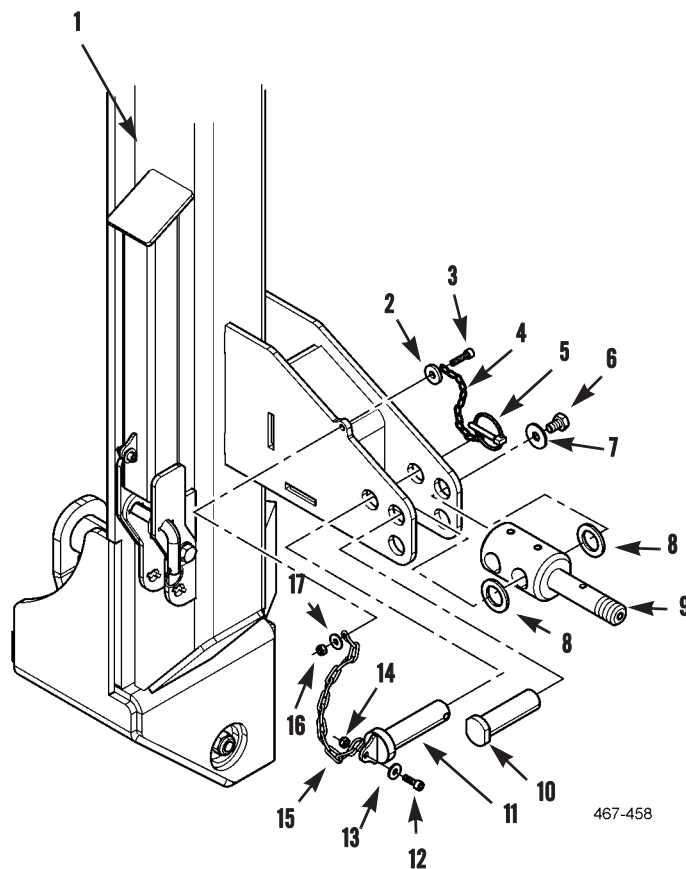

Figure 3. Roller Pins and Chains.
1. Install roller pin (Figure 3, Item 9) and pin (Figure 3, Item 11) in lift frame (Figure 3, Item 1).
2. Install snap ring pin (Figure 3, Item 5) in pin (Figure 3, Item 11).
3. Install two spacers (Figure 3, Item 8), pivot pin (Figure 3, Item 10), washer (Figure 3, Item 7), and bolt (Figure 3, Item 6) on lift frame (Figure 3, Item 1).
4. Install washer (Figure 3, Item 13), bolt (Figure 3, Item 12), chain (Figure 3, Item 15), and new locknut (Figure 3, Item 14) on pin (Figure 3, Item 11).
5. Install washer (Figure 3, Item 2), bolt (Figure 3, Item 3), chains (Figure 3, Items 4 and 15), washer (Figure 3, Item 17), and new locknut (Figure 3, Item 16) on lift frame (Figure 3, Item 1).